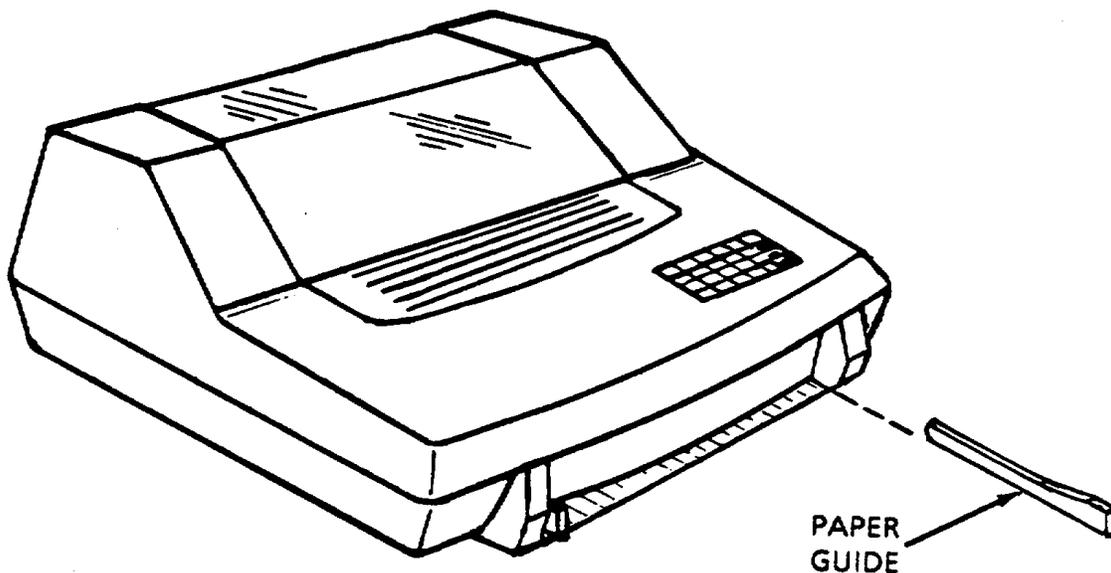

Figure 2-6. Loading Paper
- (1) Lift back panel access door.
- (2) Connect power cord to printer power receptacle. Plug other end of power cord into 110-120 volt 60 Hz ac power source. For overseas applications, an optional 220-240 volt 50 hz ac adapter must be installed.
- (3) Place power switch in ON position.
c. *Loading Paper or Label Stock.* To load paper or label stock, see figure 2-6.
- (1) Place power switch in OFF position.